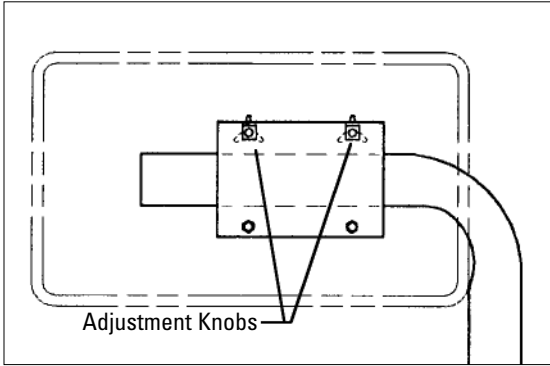

Figure 6 - Control Pod Adjustment Knobs
**17.** Loosen the two adjustment knobs on the back of the control pod (Figure 6).